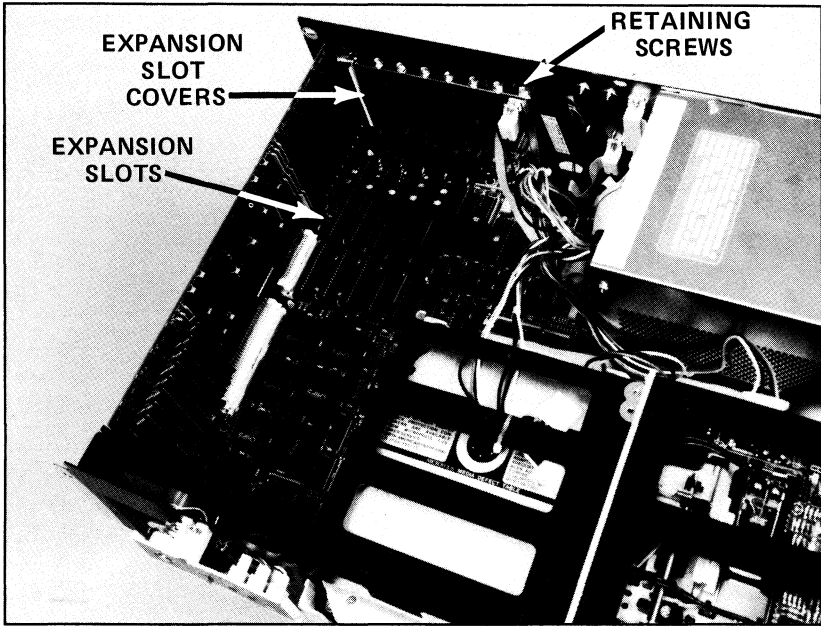

Figure 2-6. Location of Expansion Slots
Your MARK 386 system offers five 16-bit AT-compatible expansion slots for optional boards, labeled J7 through J11 (Figure 2-6). The option board may be an internal modem or other communications board, a mouse driver, or a special application board.
The boards are held in place by the card edge connector, which holds the board into the slot, and the backplate, which is connected to the rear panel by a single screw (see Figure 2-6).
2. Locate the expansion slots J7 through J11 and the rear panel expansion slot covers (Figure 2-6).